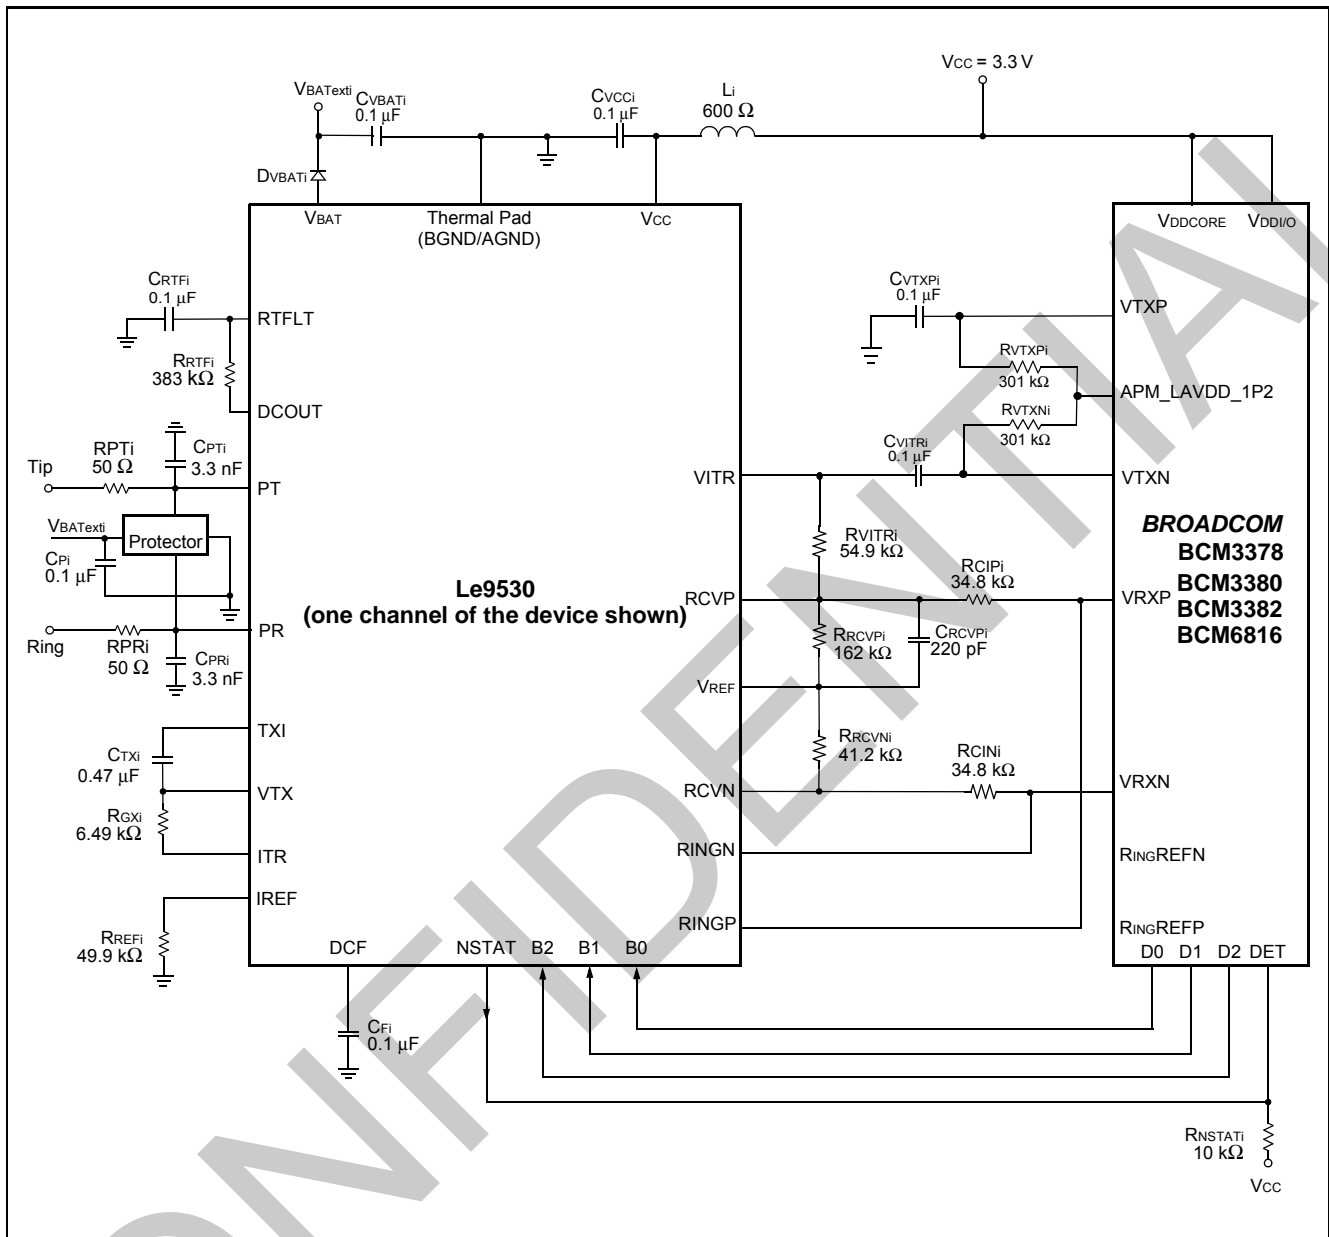

Figure 10 - Le9530 Reference Schematic Interfacing Broadcom Codec with Shared Driving Paths
Figure 10 shows the ringing is driven by the same voice path.
- Updated CPT and CPR capacitors in Figure 10 on page 29, Figure 11 on page 30 and the table on page 31.